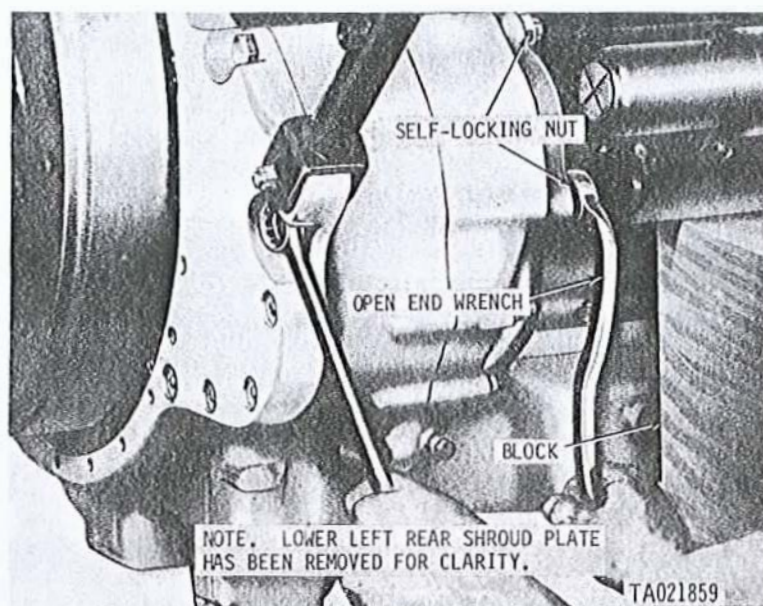
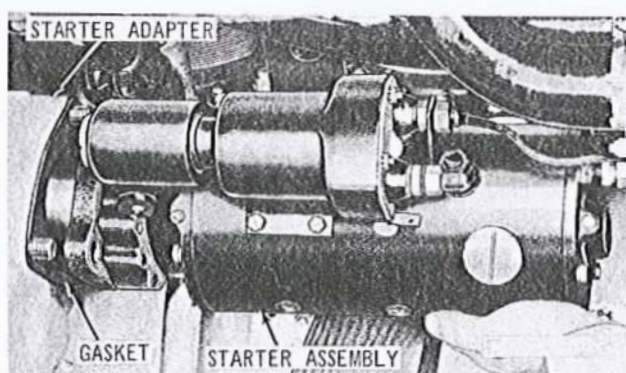

Figure 2-12. Removing or installing starter mounting nuts.
Figure 2-13. Removing or installing starter assembly.
(6) Install suitable blocks (fig. 2-12) under starter assembly for support. Remove two self-locking nuts from bolts and one self-locking nut from stud (behind starter) using open end wrench Part No. 8761568.
(7) Remove starter assembly (fig. 2-13) from starter adapter. Remove and discard mounting gasket.
(1) Install two bolts through transmission and starter adapter. Install new mounting gasket (fig. 2-13) on starter adapter. Position starter assembly on starter adapter and position suitable blocks (fig. 2-12) under starter assembly for support.
(2) Install two self-locking nuts on bolts and one self-locking nut on stud (behind starter) using open end wrench Part No. 8761568 (fig. 2-12).